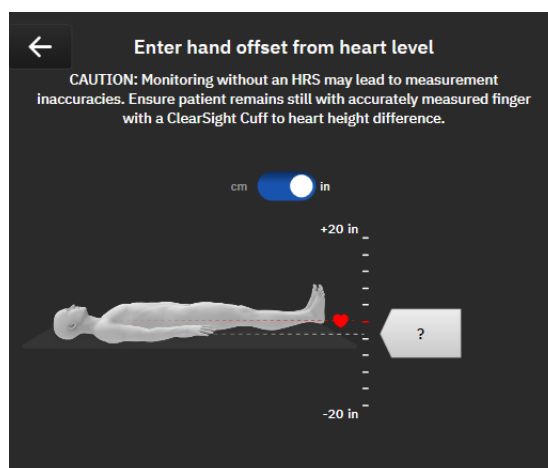

Figure 10-5 Vertical offset entry screen
- 5 The **Zero** screen in this mode (shown in figure 10-5) will depict a vertical scale bar to represent the offset of the hand relative to the heart; the heart level is set at zero. A positive offset signifies a patient position where the hand is above the heart. Select the units of the scale bar: **cm** (centimeters) or **in** (inches).